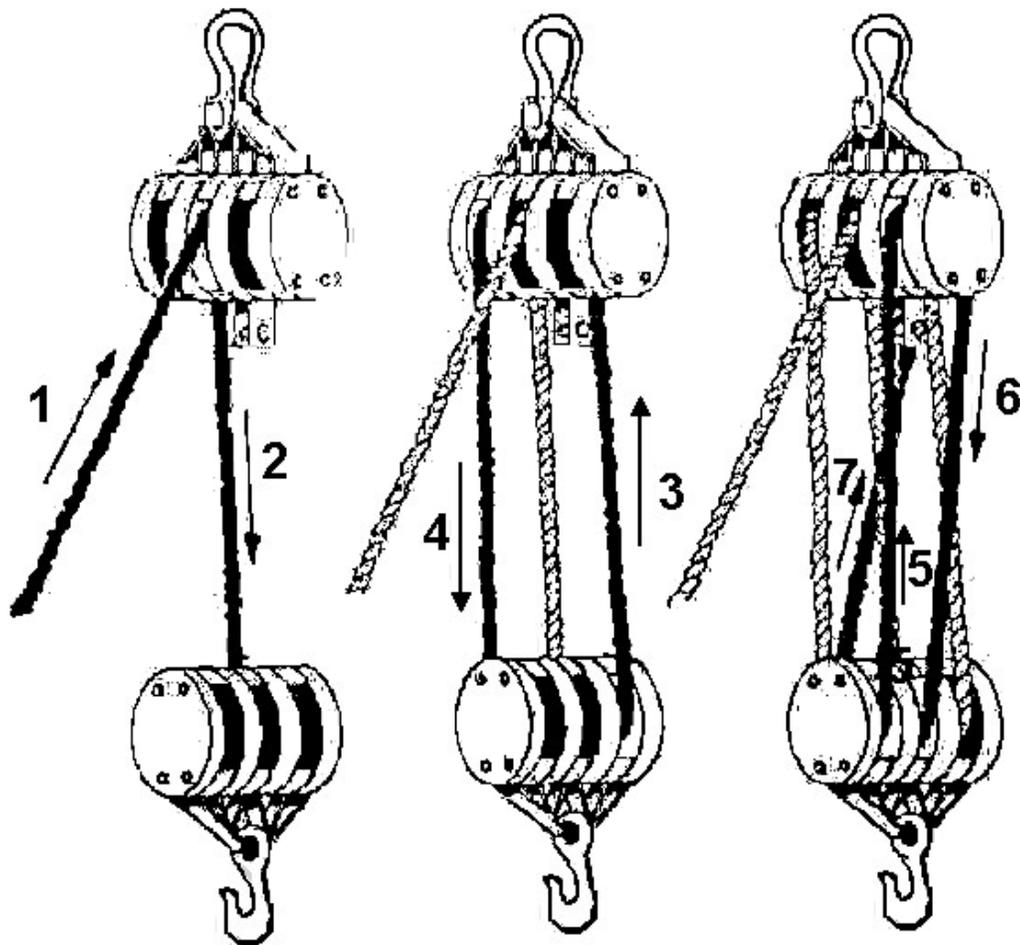

Figure 3-35
1. Lay the blocks out (see Figure 3-35).